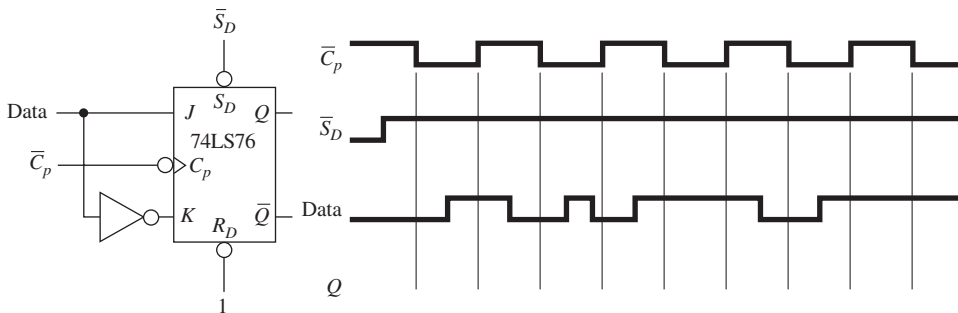

Figure P29
29. Sketch the output waveform at Q for Figure P29.